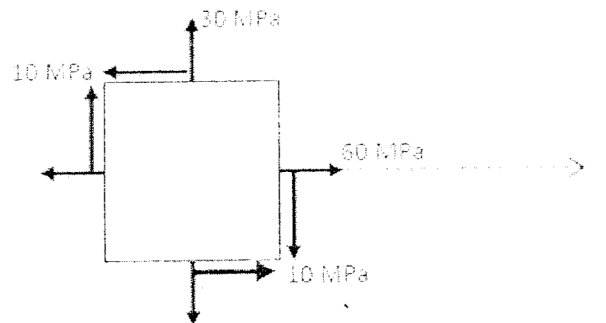

Figure 4
8. Using the Mohar's circle, for the state of stress shown in Figure 4, determine: